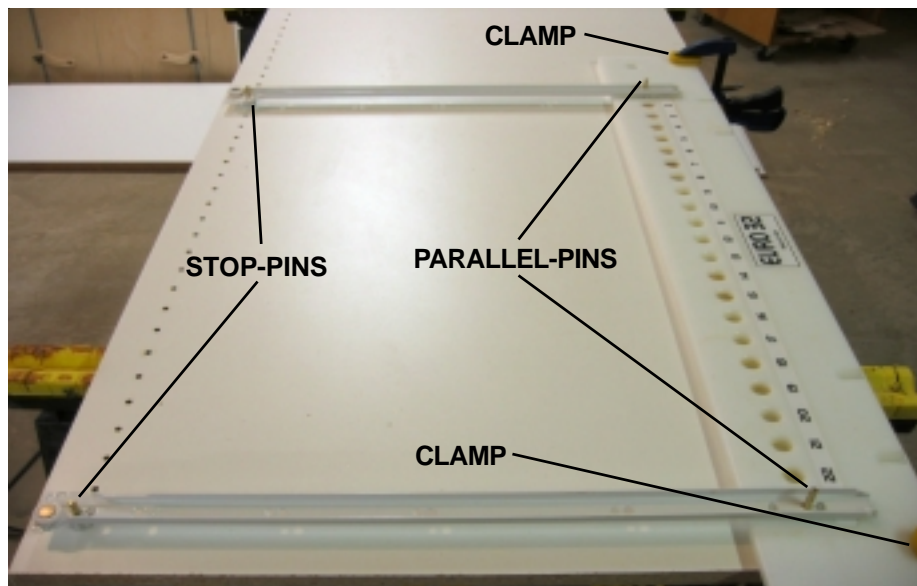

Figure 20
6. Place the spacer strip, or the drawer guides (using the flat head screw holes), between the stop-pins and the parallel-pins and clamp the hole-boring template to the work-piece using two clamps on the outer most edges making sure the stop-block is tight up against the bottom edge of the work-piece as shown in Figure 20. The hole-boring template is now parallel to the front system holes.